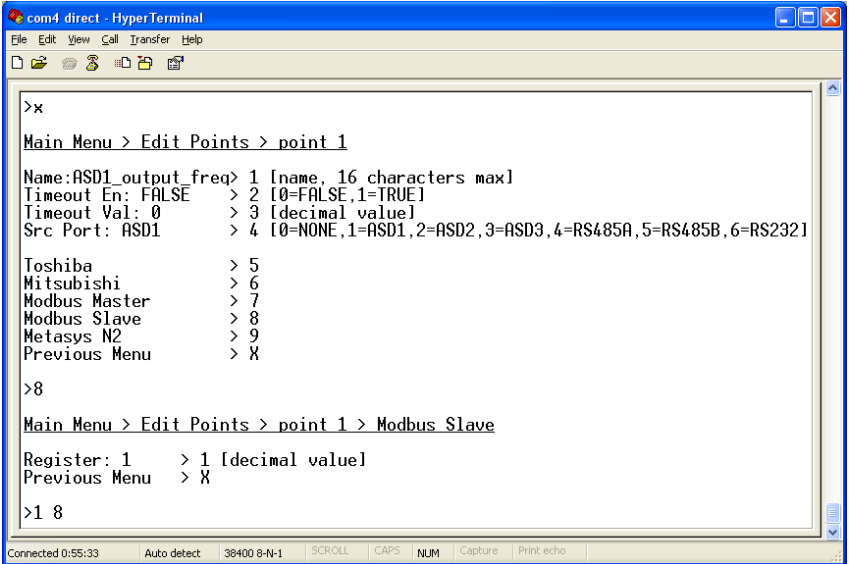

Figure 17: Edit Modbus Slave Attributes
- **Edit Register:** Menu selection 1 allows you to assign a Modbus register (accessible as either a holding register or input register) to this point. Figure 17 shows an example of how to change the current setting of 1 to 8.